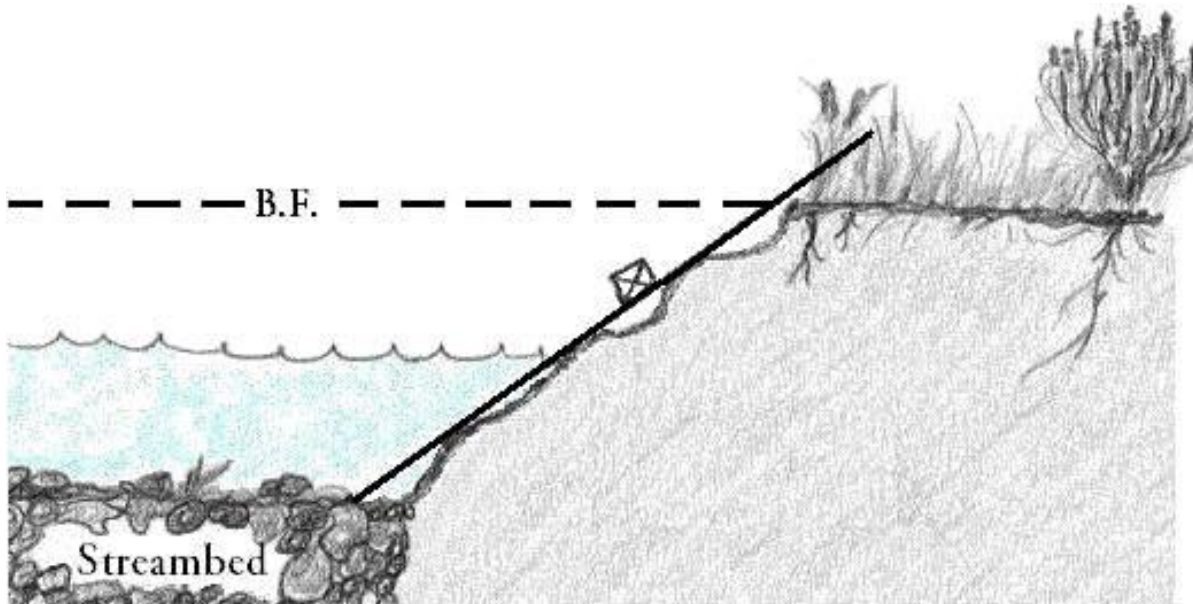

Figure 34: Measure the angle of banks with 3 or more angles by laying the rod along outer edges.
- Measure the average angle by laying the depth rod along the outer corner of the steps (Figure 34).